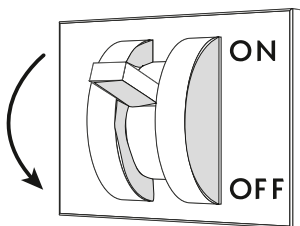

Fig. 36
- Disconnect the power supply to the cabinet using the wall-mounted main switch-disconnector ("Fig. 36").